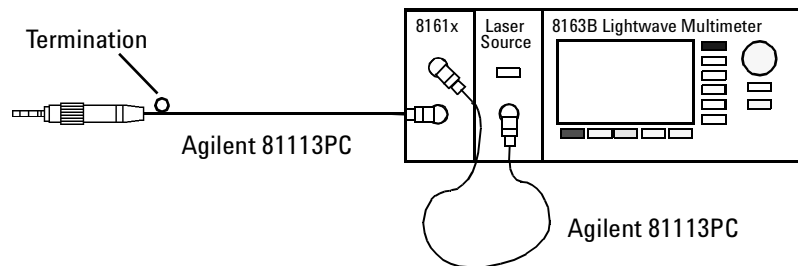

Figure 96 Termination Calibration - External source
- 1 Making sure all the connectors are clean, set up the instrument as shown in Figure 96 if you are using an External Source,